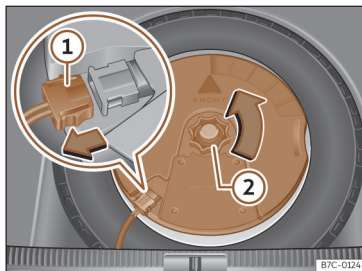

Fig. 212 In the luggage compartment: remove the subwoofer.
- Disconnect the *subwoofer*»» **Fig. 212** ① speaker cable.
- Turn the securing wheel in an anti-clockwise direction»» **Fig. 212** ②.